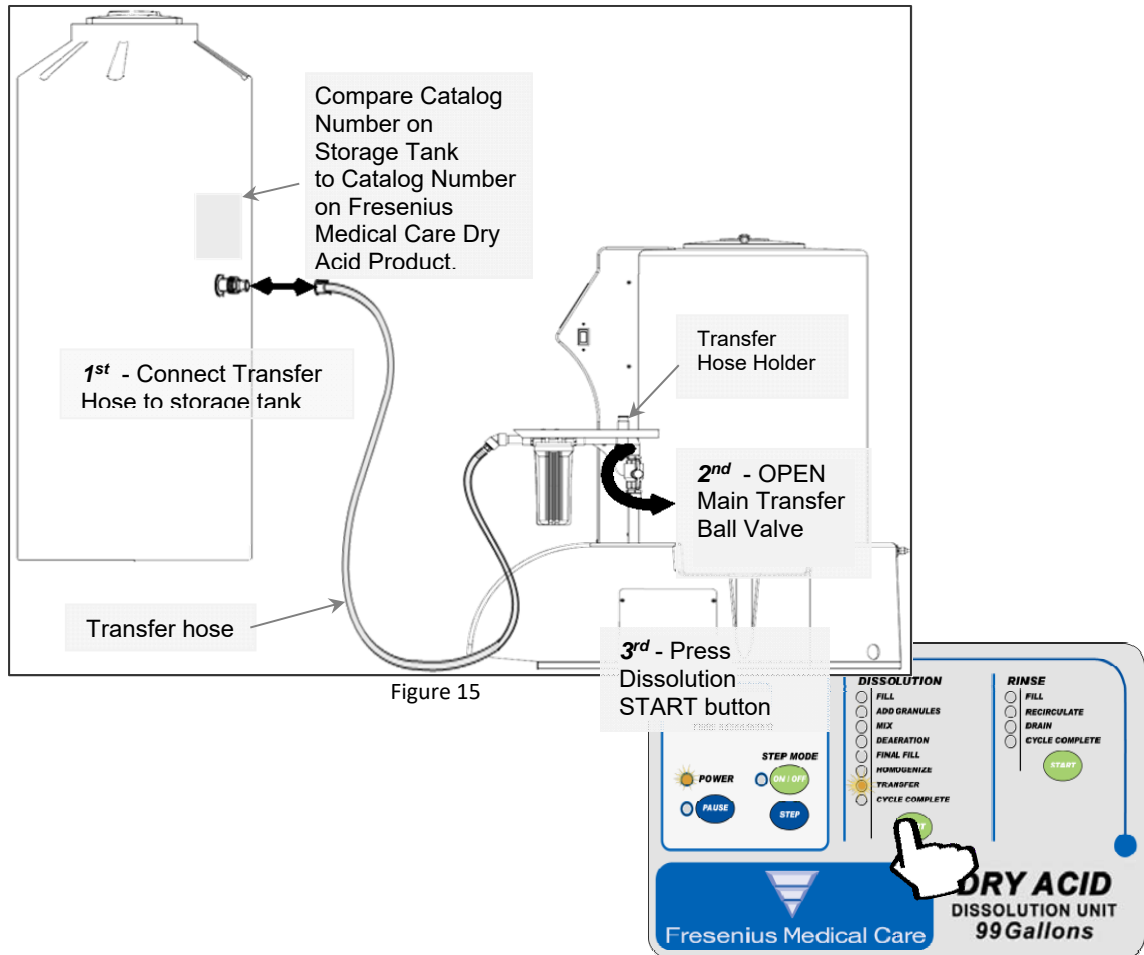

Figure 15
2. Connect Transfer Hose to the storage tank and OPEN Main Transfer Ball Valve at the side of the Filter Housing. Press the Dissolution START button to transfer concentrate into the storage tank (Figure 15).
3. Once Transfer of solution is complete, CLOSE the Main Transfer Valve, and place Transfer Hose on to the Dry Acid Dissolution Unit Transfer Hose Holder (see Figure 15). Do not leave Transfer Hose attached to the Storage Tank.